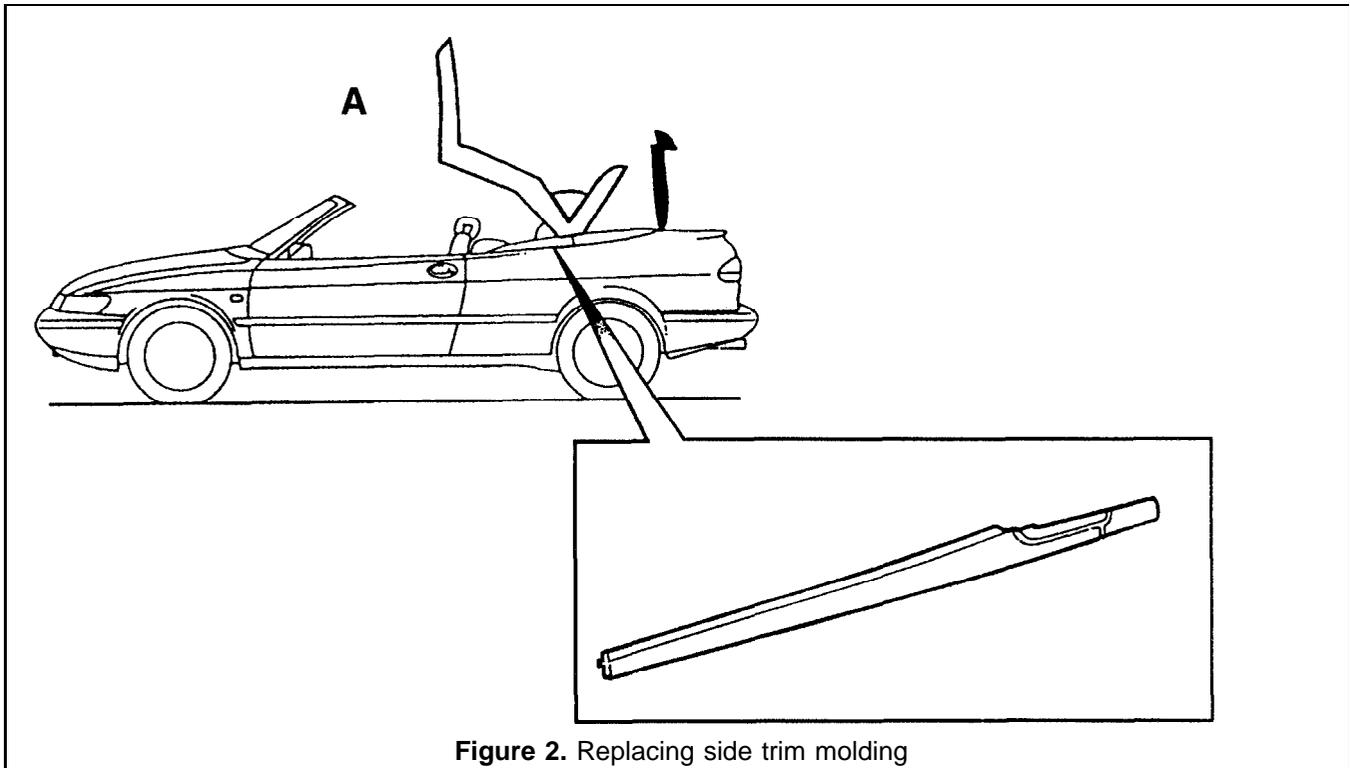

Figure 2. Replacing side trim molding
1. Operate the top using the "ROOF" switch until it is halfway raised and the Tonneau cover is fully upright. All windows should be lowered. See Figure 2.A.